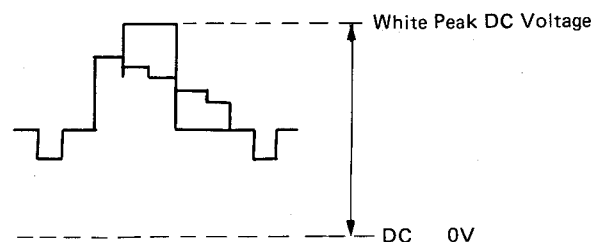

Figure 41.
- 4) Then enter a PAL color bar signal. Connect an oscilloscope to IC 201 pin (16) to observe the white peak DC potential as shown in Fig. 41.